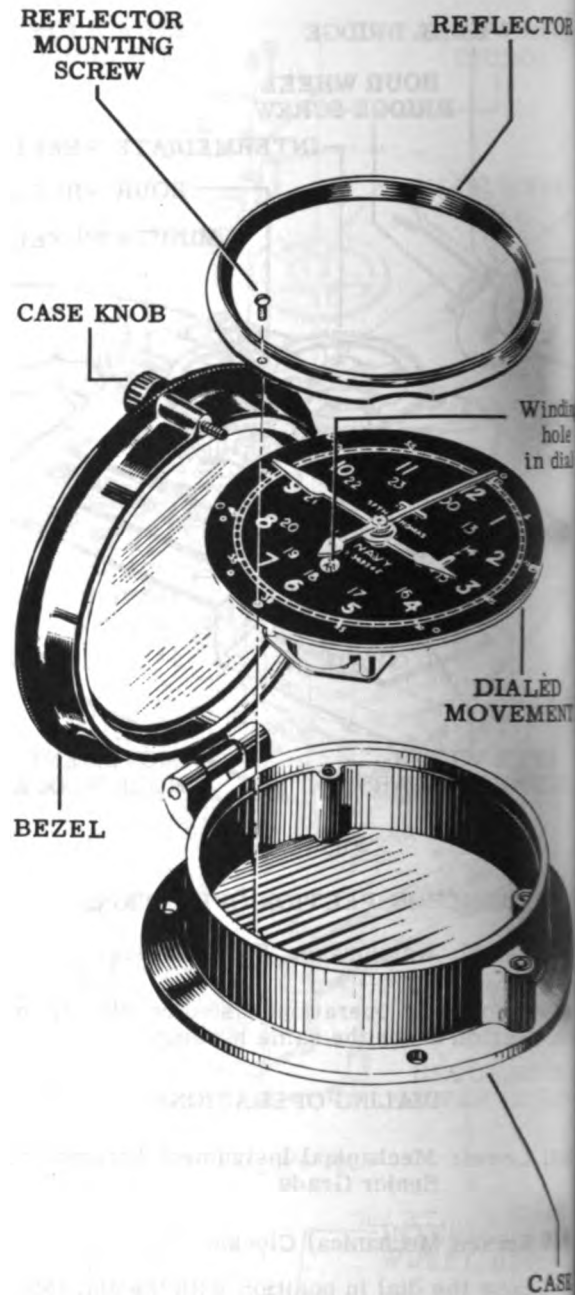

Figure 130
1. To put the dialed movement back into the case, refer to Fig. 130 for the proper positions of the parts involved. Place a winding key or a letdown key through the dial winding hole and over the squared end of the barrel arbor. With a tilting and lifting motion of the hand holding the key, most of the weight of the dialed movement can be supported by the key. With the other hand supporting the rim of the dial, place the dialed movement back into the case. Turn the dial so that the three dial mounting holes line up with the three mounting holes in the case rim.